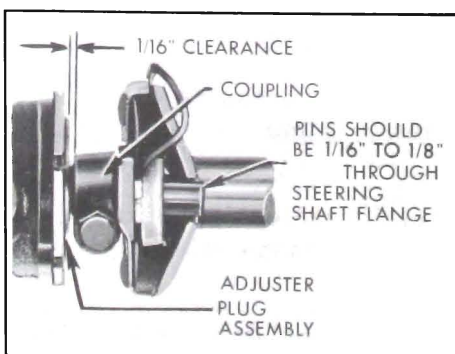

Figure 8-35 Correct Installation of Lower Coupling
6. Install coupling pinch bolt and tighten to 30 ft. lbs. There must be at least 1/16" clearance between coupling and adjuster plug. See Figure 8-35.
**IMPORTANT:** Mast jacket must be positioned so that lower coupling pins are extending through steering shaft flange 1/16" to 1/8". See Figure 8-35.